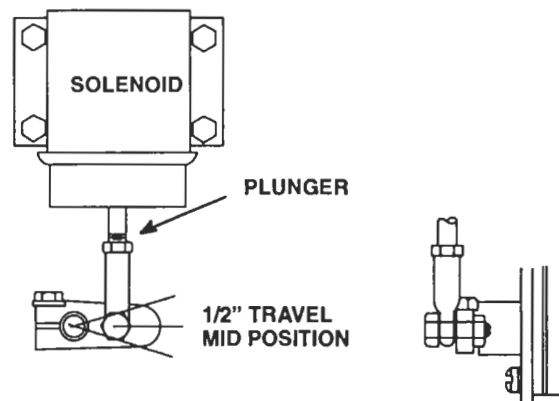
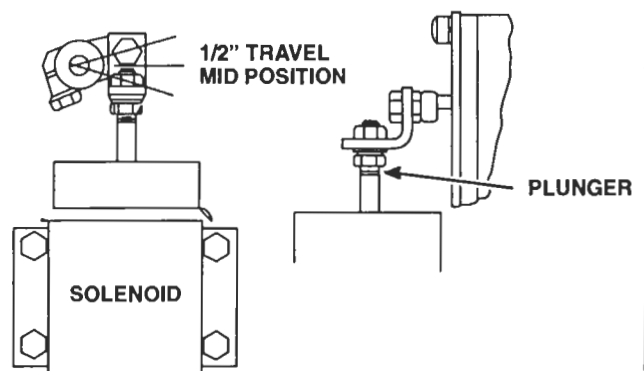

Figure 15. Typical Variable Speed Governor Lever Position
Figure 16. Typical Limiting Speed Governor Lever Position
1. Remove the bolt connecting the rod end eye (variable speed governor) or the right angle clip (limiting-speed governor) to the stop lever (Figure 15. and Figure 16.) Align and clamp the lever to the shutdown shaft in such a way that at its mid-travel position it is perpendicular to the solenoid plunger. This assures that the linkage will travel as straight as possible. The solenoid plunger has available 1/2 inch travel which is more than adequate to move the injector control racks from the full-fuel to the complete no-fuel position and shutdown will occur prior to attaining complete travel.